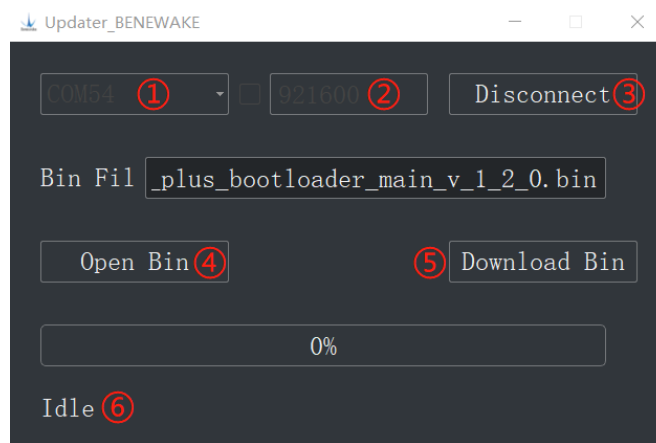

Figure 7 Firmware Upgrade PC software of TFmini-S
③ Connection to the Test software and data output
Open the PC software and select “① TFmini” and select automatically recognized occupied serial port (here it is “② COM9”), as shown in Figure 7